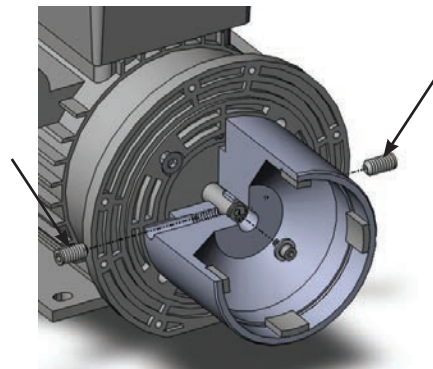

Figure 6
6. Secure the drive on the motor shaft using bolt, lock washer and flat washer (items 9, 10, 11). Coat the bolt threads with anti-seize compound. Thread the bolt into the end of the motor shaft (while holding the outer drive to prevent it from turning). See figure 6.
7. Tighten two set screws (item 5B) to a torque of 75 in.-lbs. (8.5 N-m) using a 1/8" Allen wrench. See figure 6.